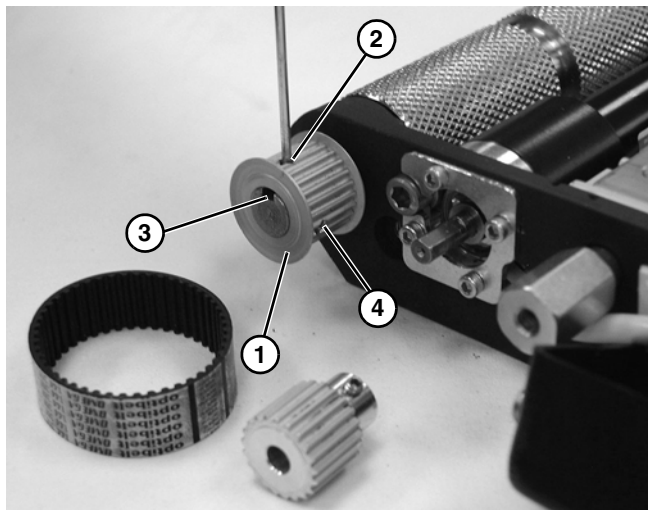

Figure 65
2. Install driven pulley (**Figure 65, item 1**) onto conveyor shaft until flush with spindle end. Line up longer set screw (**Figure 65, item 2**) on pulley over keyway (**Figure 65, item 3**) of shaft. Tighten set screw (**Figure 65, item 2**) and set screw (**Figure 65, item 4**) to 18 in-lb (7 Nm).